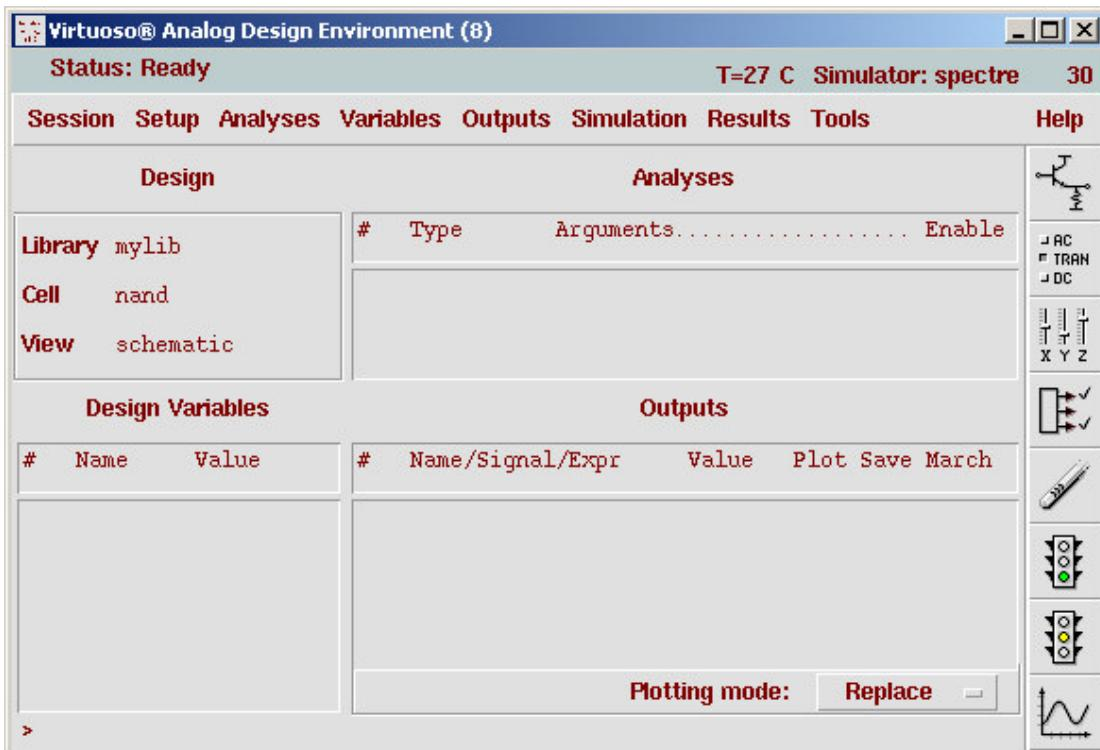

Figure 62. Virtuoso Analog Design Environment
1. In the **Virtuoso Schematic Editor** window, click **Tools**, then **Analog Environment**. The analog environment will open another schematic view and will probably re-organize all your windows. Most importantly, the **Virtuoso Analog Design Environment** window will pop up as in Figure 62.